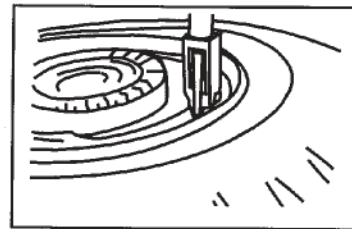

Figure 2
1. Place the bead breaker into the continuous pry bar pocket, with the hooks under the lip of the bead seat band. (See Fig. 2.)
3. Adjust the ram adjusting screw so that the bead breaker is perpendicular (90°) to the wheel. (See Fig. 2.)